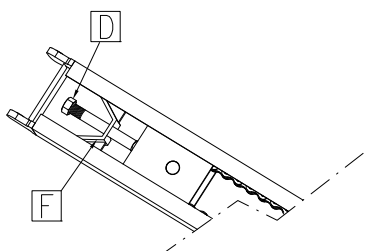

Fig. 2
- Loosen nut D and remove the drive support F (fig. 2)